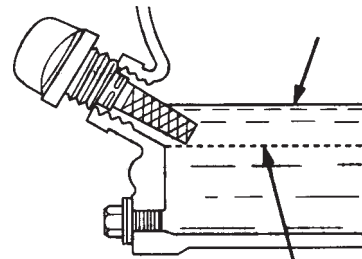

Figure 13. Engine Oil Dipstick (Oil Level)
4. If the oil level is low (Figure 13), fill to the edge of the oil filler hole with the recommended oil type (Table 4). Maximum oil capacity is 400 cc.